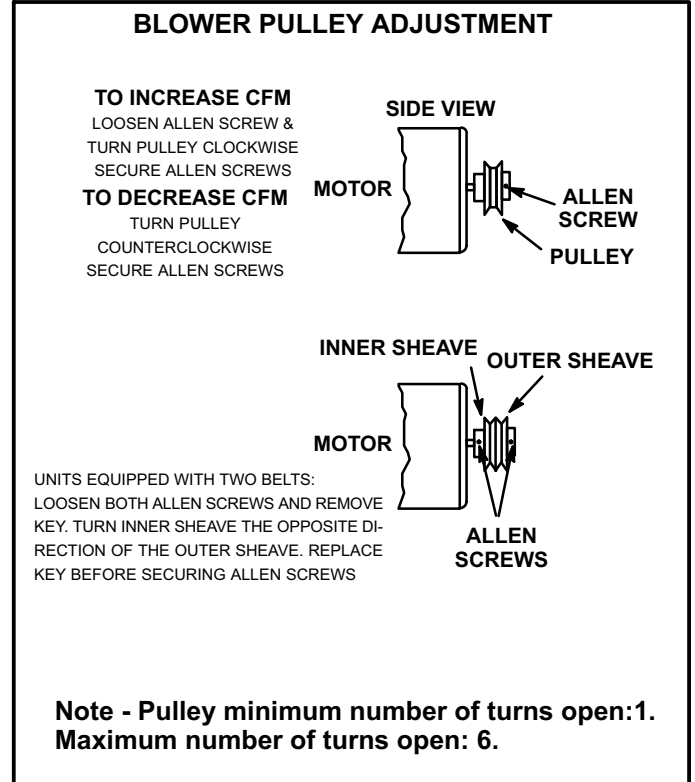

FIGURE 9
- 6- The blower RPM can be adjusted at the motor pulley. Loosen Allen screw and turn adjustable pulley clockwise to increase CFM. Turn counterclockwise to decrease CFM. See figure 9 and 10.